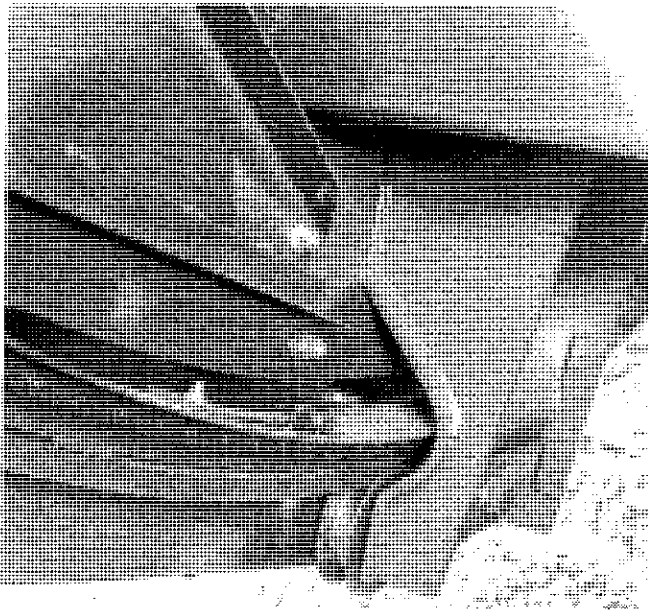

FIGURE 52 - LOWER RETAINER INSTALLATION
Install the bottom of the retainer first with four (4)  $\frac{1}{2}$ " x 1  $\frac{1}{4}$ " hex bolts, four (4)  $\frac{1}{2}$ " lock washers, two (2)  $\frac{1}{2}$ " flat washers and four (4)  $\frac{1}{2}$ " nuts provided. Make sure the sides of the retainer are outside the attaching panels as shown (see figure 52).